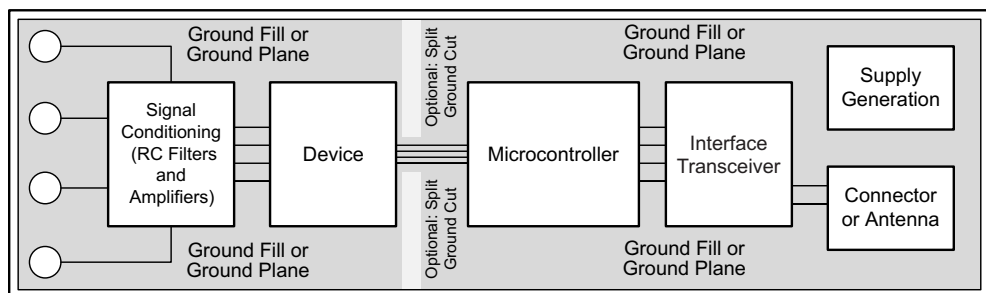

Figure 79. System Component Placement
TI recommends employing best design practices when laying out a printed-circuit board (PCB) for both analog and digital components. This recommendation generally means that the layout separates analog components [such as ADCs, amplifiers, references, digital-to-analog converters (DACs), and analog MUXs] from digital components [such as microcontrollers, complex programmable logic devices (CPLDs), field-programmable gate arrays (FPGAs), radio frequency (RF) transceivers, universal serial bus (USB) transceivers, and switching regulators]. An example of good component placement is shown in Figure 79. Although Figure 79 provides a good example of component placement, the best placement for each application is unique to the geometries, components, and PCB fabrication capabilities employed. That is, there is no single layout that is perfect for every design and careful consideration must always be used when designing with any analog component.